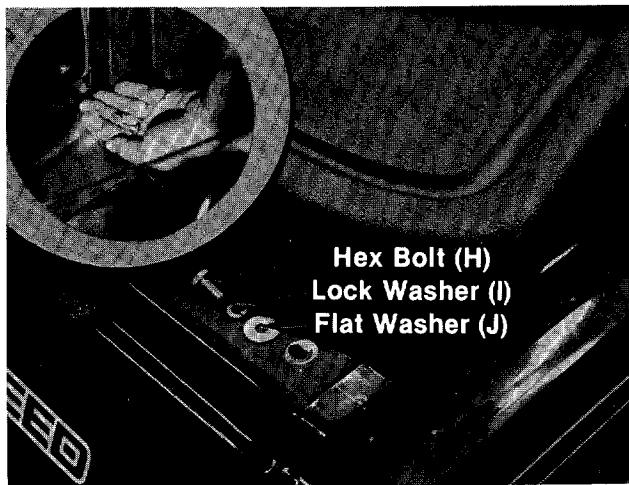

FIGURE 6.
- To secure seat to cover assembly, place lock washer (I) and flat washers (J) on hex bolts (H). ← Line up the four holes in bottom of seat with four corresponding holes in cover. Then insert the four hex bolts up through holes, tightening with an adjustable wrench. See figure 6.